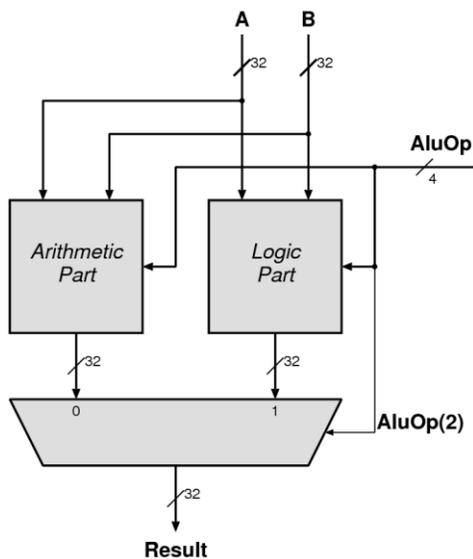

Figure 1. A possible division for the ALU
Let us first examine the different commands. You should see that we have two types of instructions. The three instructions **add**, **sub**, **slt** require arithmetic operations, whereas the four remaining **and**, **or**, **xor**, **nor** are logical operations. So we could perhaps see that we have two separate groups of operations. Now let us look at Table 1 and determine for which values of AluOp we perform an operation from which group. It should be pretty clear that when AluOp(2) is logic-0 we have an arithmetic operation and when AluOp(2) is logic-1 we select a logic operation. This means that the output of either group can be selected by a 2-input multiplexer that is controlled by AluOp(2). Figure 1 shows this distribution.